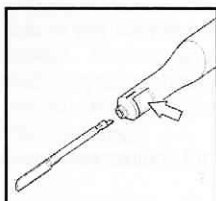

Figure 1.
1. Fully depress the button (see figure 1).